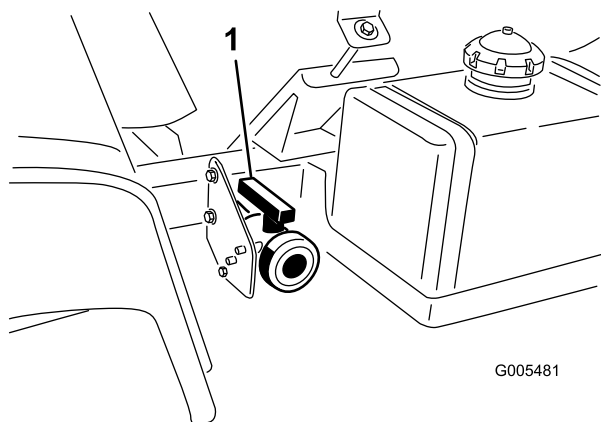

Figure 26
2. Locate the tank drain valve on the left side of the machine (Figure 26). The valve is on the frame in front of the fuel tank.